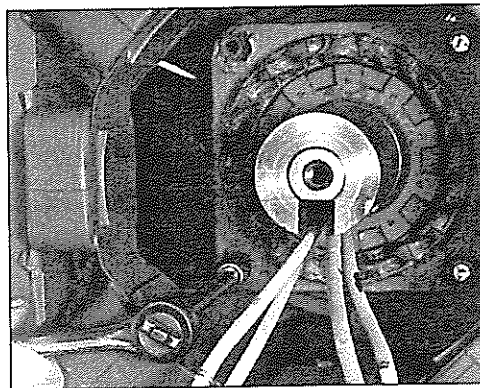

Figure 6-15
4. Remove the four mounting capscrews (see figure 6-15).